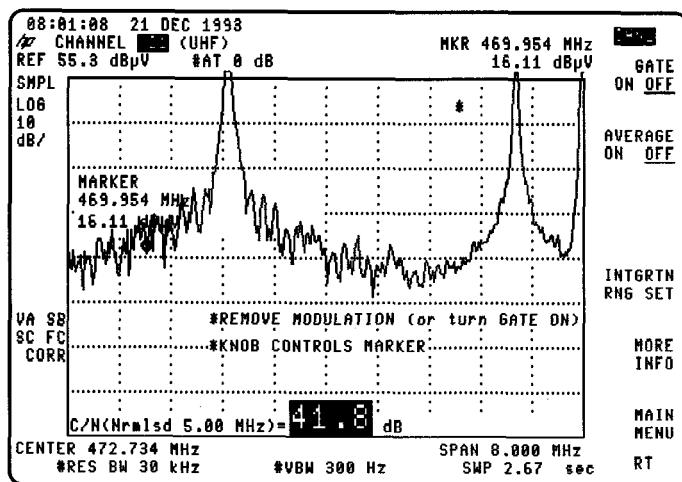

Figure 2-12. Carrier-to-Noise (Gate Off)
X.XX MHz is the measurement bandwidth selected from the **MESMNT BW** in the Setup menu and YY.Y dB is the carrier-to-noise ratio, normalized to that bandwidth. (See Figure 2-12.)